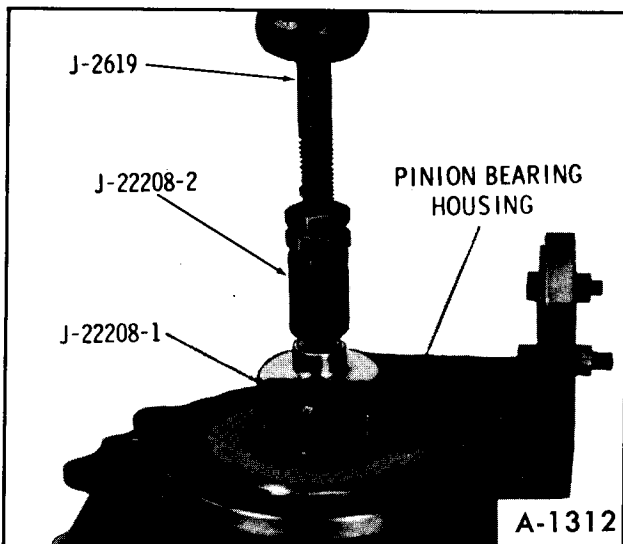

Figure 24—Removing Pinion And Bearing Housing
2. Remove the bearing housing bolts. Remove the drive pinion and housing as shown in Figure 24.
11. Remove the bearing housing bolts. Remove the drive pinion and housing as shown in Figure 24. Remove housing from drive pinion. Remove "O" ring seal from bearing housing.